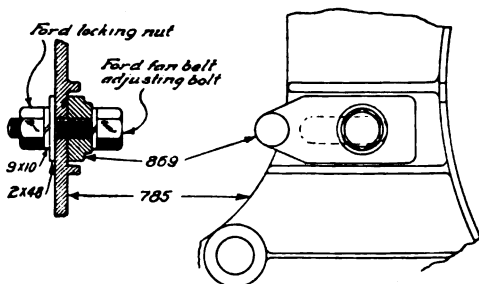
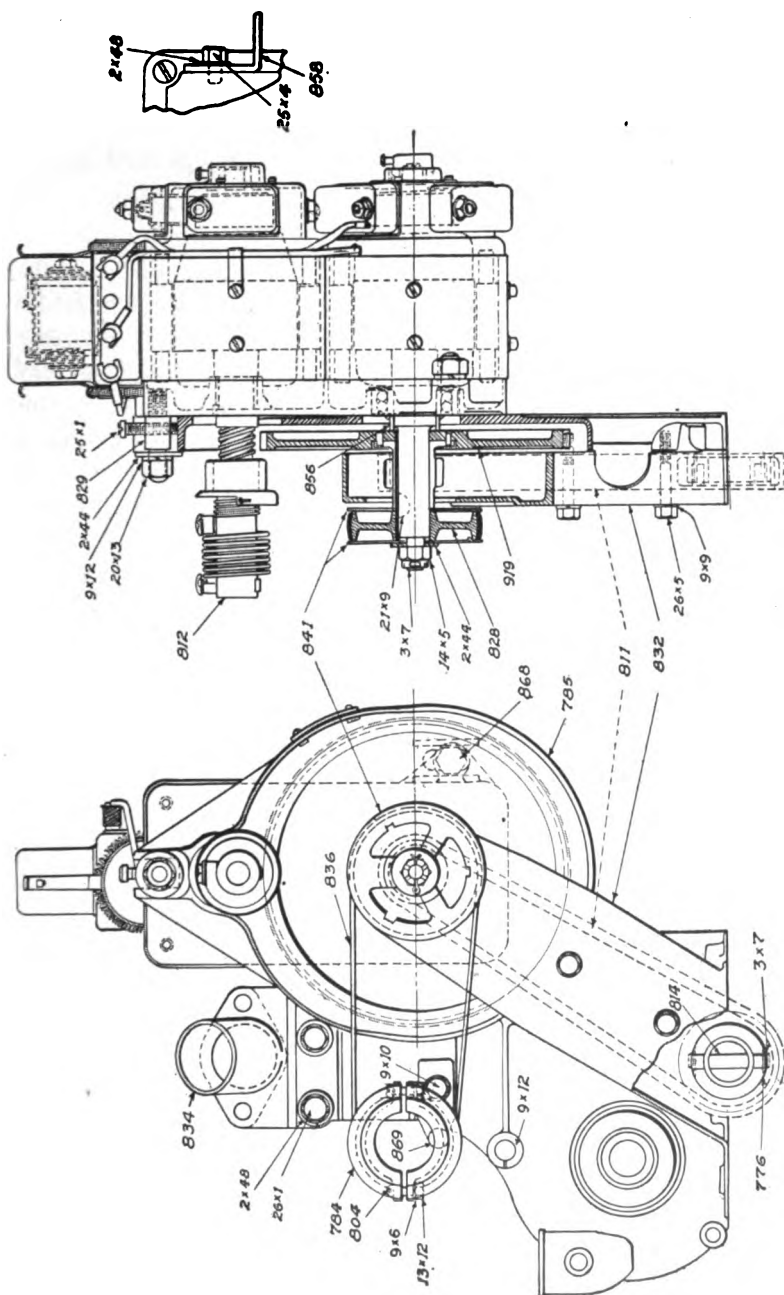

Fig. 395. Correct Assembly for Belt Tightener for Heinze-Springfield Ford Installation
Fig. 396. Heinze-Springfield Starting Motor and Generator Unit Installed on Ford Engine
The timing gear, or cylinder front cover, should then be removed, retaining all the bolts, the nuts, the gaskets, and the cotter pins, for replacement in mounting the main-bracket plate 785 of the Heinze equipment, Figs. 395 and 396. It is necessary that the felt washers
Secure the water-outlet header 834, Fig. 396, in place on the cylinder-head casting, using the original Ford bolts and gasket. Place the fan-belt tightener 865, Fig. 395, with the nose away from the large gear housing, in the slide provided for it on the main bracket plate 785. Remove the fan-adjusting screws and the locking nut from the Ford timing-gear housing plate and use them together with the two lock washers (9×10) and the plain washer (2×48), as shown in Fig. 395. Set the main bracket plate in position on the engine and bolt it securely in place, using the original paper gasket, the cap screws, the bolts, the nuts, and the cotter pin. Then bolt the main bracket plate 785 to the water-outlet header 834, using the two bolts (26×1), the lock washers (9×10), and the plain washers (2×48), Fig. 396. The commutator-brush assembly and the housing should now be replaced, taking care to put them in their original positions; then connect the spark-advance rod on the commutator housing.
With the unit loosely in place, proceed with the chain equipment as follows: Place the generator-shaft spacer 856 and the Woodruff key (21×9) on the generator shaft, Fig. 396. Place the gear and the sprocket assembly 919 also on the generator shaft, so that the large gear is on the inside toward the main bracket plate. Place the chain
means of the fillister-head cap screw (25×1), Fig. 396, in the upper chain-adjusting stud 829, raise the generator-motor unit until the chain is reasonably tight. Then securely lock it in position by tightening the upper and the lower holding-stud nuts (20×13). The generator-motor unit and the driving-chain equipment are then securely installed.
Chain Drive. The chain cover 832 is next to be placed in position, Fig. 396, using the cap screws (26×5) and the lock washers (9×9) to hold it securely to the main bracket plate. Place one of the fan-belt guards 841 on the generator shaft, with the three projections toward the front of the car. Then assemble the fan-belt pulley 828 against this guard and complete the fan-belt pulley assembly with the other fan-belt guard 841, this time, however, placing the three projections toward the rear of the car. These projections serve as centering points for the guards on the fan pulley, and the guards must
Over the old Ford fan pulley assemble the two half pulleys 784, using the screws 804, the lock washers (9×6), and the nuts (13×12), Fig. 396. By this means, the fan belt runs closer to the fan blades than before. Now mount the fan in position on the main bracket plate 785, using the original Ford screw. Place the lock washer (9×12) between the Ford fan bracket and the main bracket plate, to lock the fan bracket securely in place. Adjust the new fan belt 836 over the two pulleys to the proper tension.
Bendix Drive. Next install the Bendix drive 812 on the starting-motor shaft, Fig. 396. Remove the drive bolt of the Bendix unit and place the latter on the shaft; then replace the drive through the hole in the end of the shaft and secure by means of the lock washer and the nut, taking care to bend the small projection on the special Bendix lock washer upward against the side of the nut.